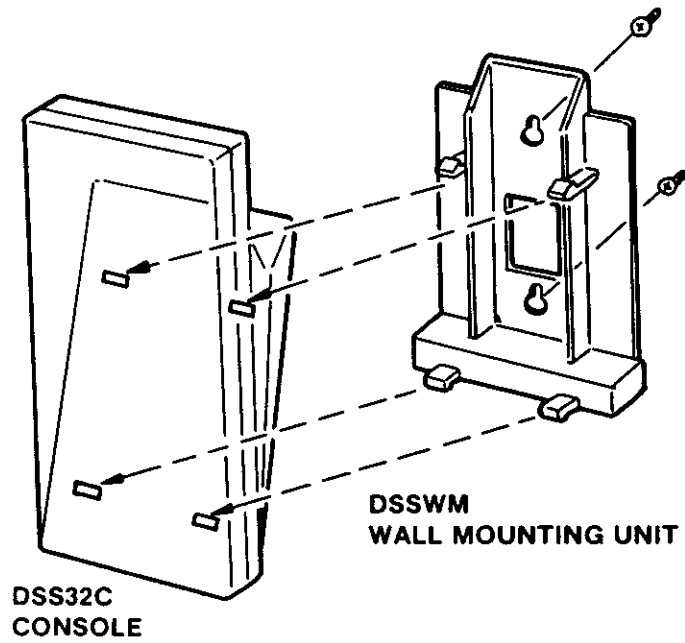

FIGURE 4-57
- Insert the bottom two tabs of the wall mount brackets first into the slots on the back of the DSS; then the two upper tabs as shown in Figure 4-57.